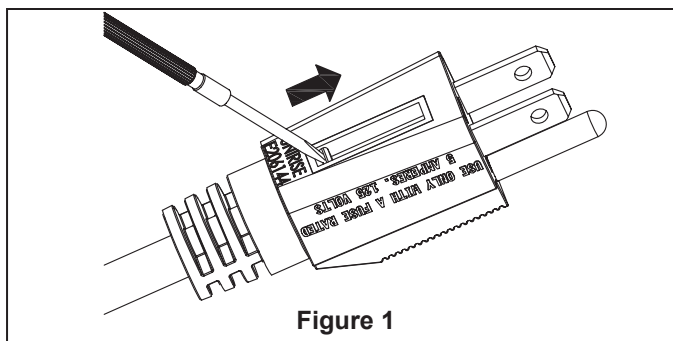

Figure 1
1. Assemble the leg to the motor assembly with 3/16-24 x 12mm screws. Make sure all screws securing tight the leg with motor assembly. (Figure 1)
2. Slide open fuse access cover on top of attachment plug towards blades (Figure 1).